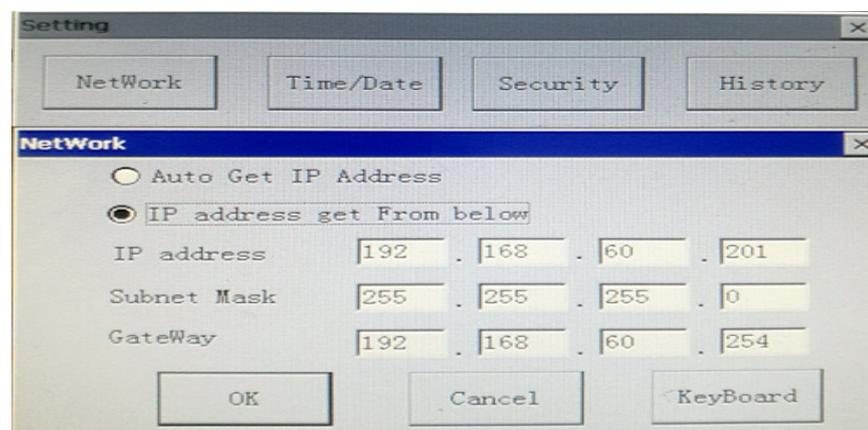

Figure 16 IP Address Setting (the IP address of HMI is 192.168.1.10).
- » Click “NetWork” button to enter the dialog box for IP address setting, as shown in figure 16.
- » IP addresses of all HMI in system setting must be in the same network segment and without conflicts. Please refer to figure 16.